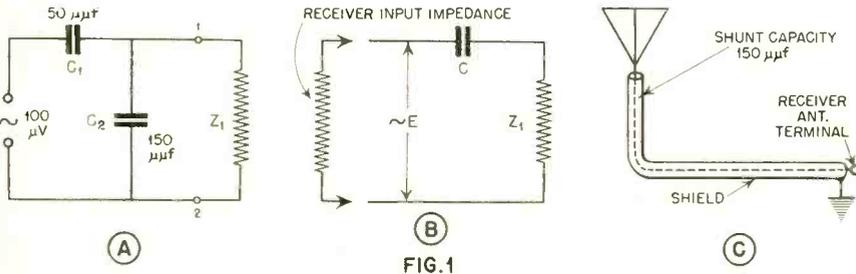

FIG. 1
**Problem 1:** Using Thevenin's Theorem, determine the equivalent voltage and impedance (Fig. 1-B) which should be connected in series with the receiver input to produce the same results as that of Fig. 1-A.
This is a common problem in an auto receiver with a 50-μμf antenna connected to a receiver input through a shielded lead-in having a capacity of lead to shield of 150 μμf. Such an arrangement is shown in Fig. 1-C.